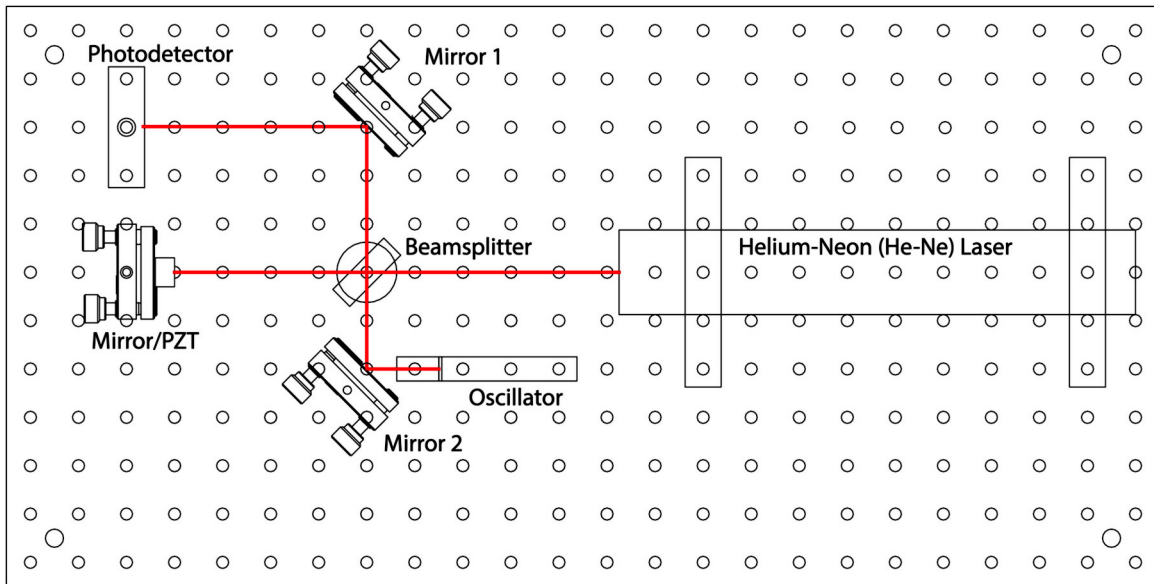

Figure 4. The interferometer set-up for the second week. Here Mirror 2 is a folding mirror, while the small mirror on the oscillator retroreflects the beam.
- With these rules in mind, your next task is to set up the optics as shown in Figure 4. We call this a “folded” interferometer because one of the arms is “folded” by Mirror 2. To begin, place a white card where Mirror 1 would sit, with the card perpendicular to the laser beam. You should see a spot on the card; note that the beam went through the beamsplitter, reflected off the Mirror/PZT, and then reflected off the Beamsplitter to make that spot.
- Next make sure both adjustment screws in Mirror 2 are near the center of their range – not all the way out or all the way in (Rule 5 above), and set Mirror 2 in place as shown in Figure 4 (but don't clamp it down yet). Align Mirror 2 so three things happen: 1) the incident laser beam hits Mirror 2 near its center (Rule 3), 2) the reflected beam hits the oscillator mirror near its center (Rule 3 again), and 3) the beam is “retroreflected” off the oscillator – that is, the beam reflecting off the oscillator mirror goes in the opposite direction of the incident beam. Note that the retroreflected beam will then appear as a second spot on the card, near the first spot.
- Once you understand the interferometer fringes to your satisfaction, remove the Diverging Lens and set up the interferometer shown in Figure 4, this time with Mirror 1 clamped down. Check that all the clamps are tight, and
- If you take a closer look at the oscillator (see Figure 4), you will see what is basically a rectangular aluminum post with a small mirror attached to one side and a magnet attached to the other side. The post behaves like a rigid body that pivots about the fixed attachment point at the base of the post (like one arm of a tuning fork). In a nutshell, this device behaves like a simple harmonic oscillator; if moving freely, the post oscillates back and forth with some resonance frequency ν_0 . If you send an oscillating current through the nearby coil, the resulting magnetic field pushes and pulls on the magnet, and you have a driven harmonic oscillator.